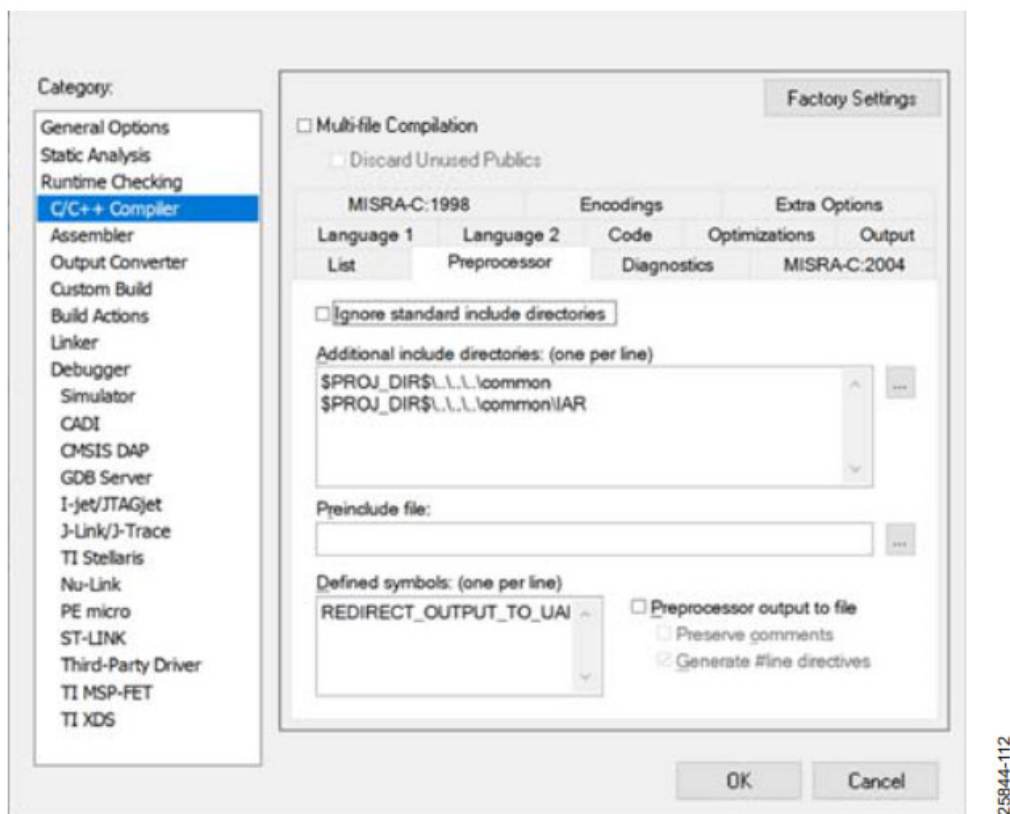

Figure 13. **C/C++ Compiler** Setting
- Next, click C/C++ Compiler, and check that the directories match those shown in the Additional includedirectories box (see Figure 13).